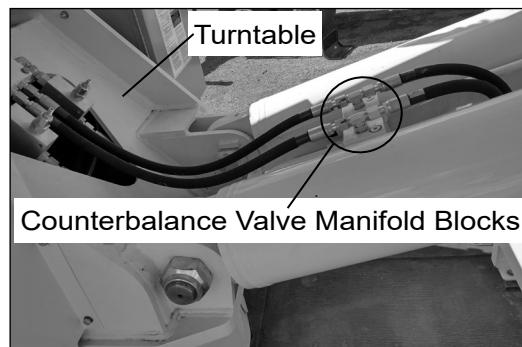

Figure 2 — Locating Counterbalance Valve Manifold Blocks
3. Find the the counterbalance valve manifold blocks, located on the inboard side of each main lift cylinder near the turntable (refer to Figure 2).